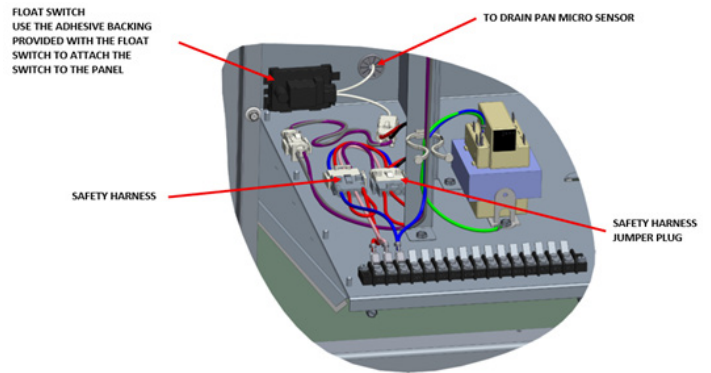

FIGURE 27
4. Locate the unit's emergency shutdown (ES) circuit inside the control box. See figure 27. If the unit has existing safety devices installed, reference sheet 11 for wiring instructions.